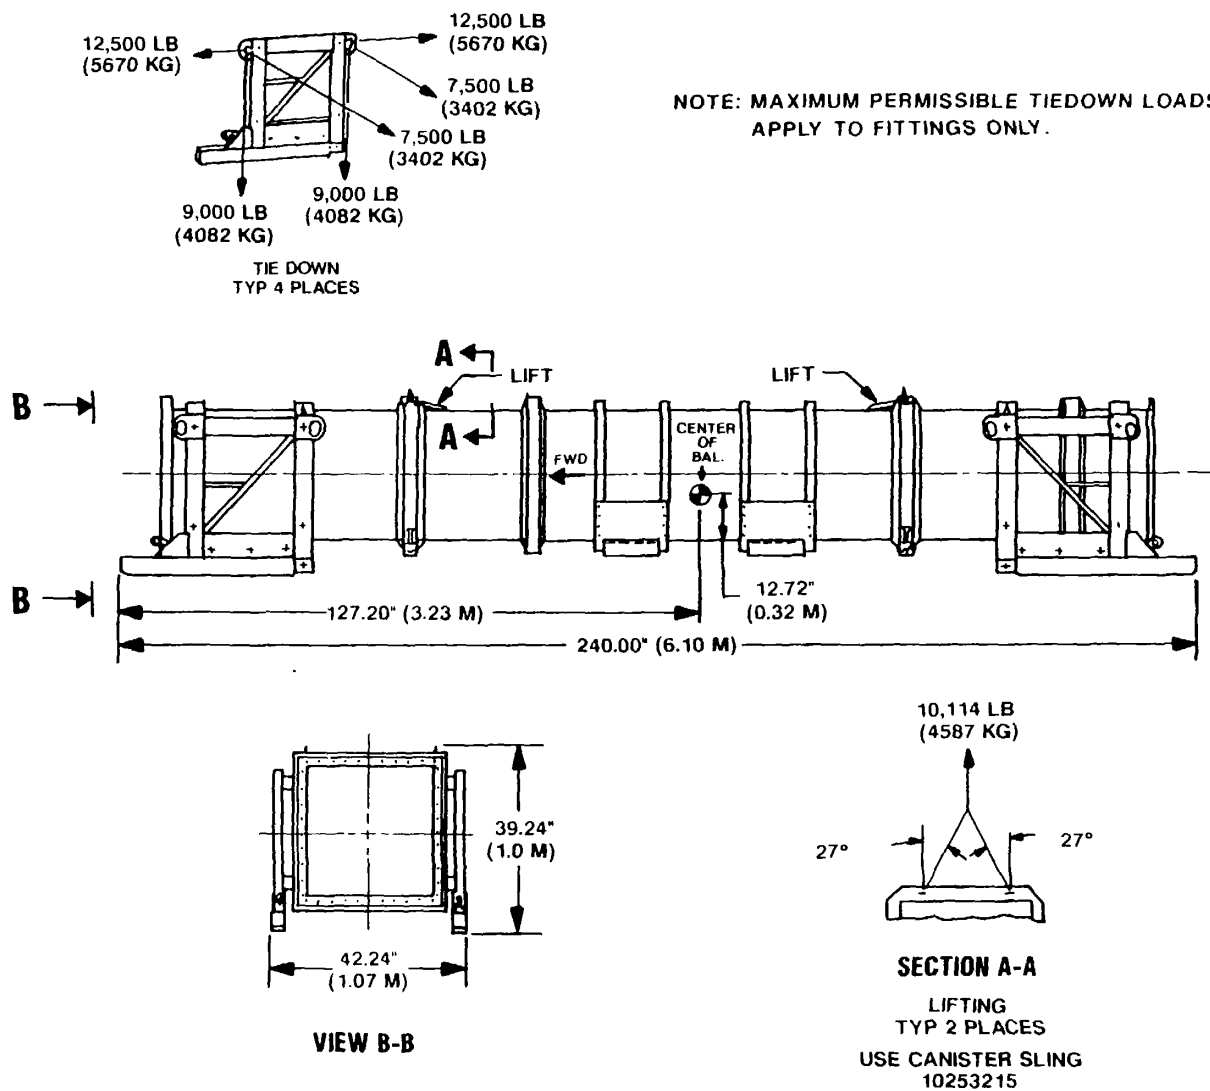

Figure 2-26. Side and end views of missile round (MR) canister.
I. Guided Missile, Intercept Aerial MIM-104A. A canister and an enclosed missile comprise the missile round (MR). The canister is reusable for logistics and test operations, but not for practical operations. The canister (fig 2-26) functions as a launch tube and also as a shipping and storage container for the missile. It has